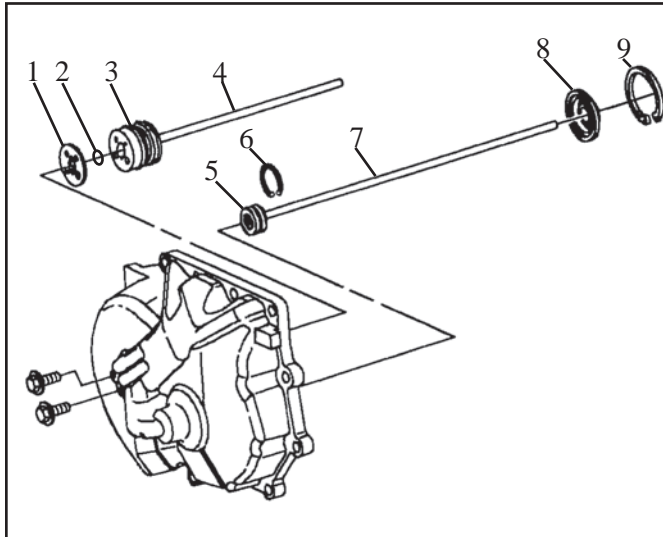

Figure 160
1. Using a pair of suitable snap ring pliers, remove the 4th clutch feed pipe lip seal retainer snap ring and remove the lip seal (See Figure 160).
2. Remove the 4th clutch feed pipe snap ring retainer and pull the hub and tube out of the cover (See Figure 160).
3. Using an 8mm socket, remove the two lube, 1st, 2nd and 3rd clutch retaining bolts from the cover (See Figure 160).